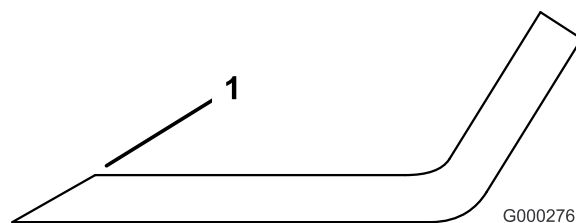

Figure 75
1. Sharpen the cutting edge at both ends of the blade (Figure 75). Maintain the original angle. The blade retains its balance if the same amount of material is removed from both cutting edges.